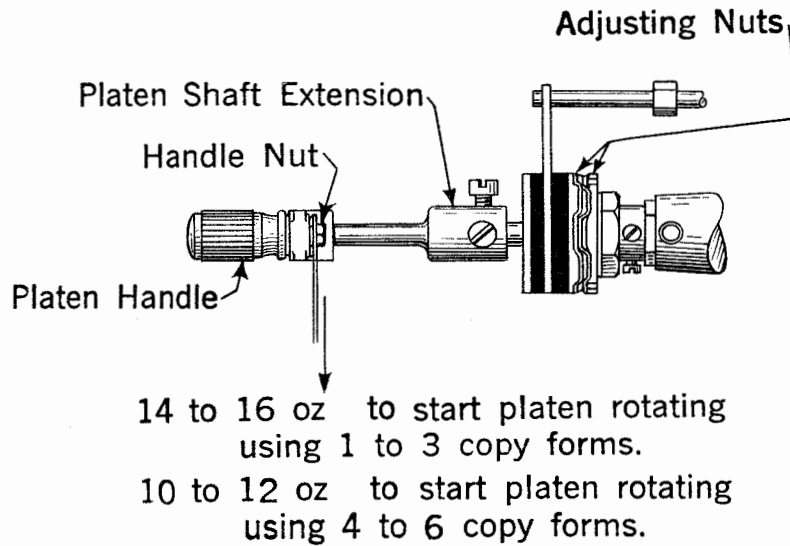

Figure 4
2.09 Platen-friction Assembly should require a pull of minimum 14 ounces, maximum 16 ounces, applied as in Figure 4, to start the platen rotating when the pressure rollers are lifted off the platen, the line-feed detent-lever spring is unhooked, the platen-handle is placed vertically upward, and 1 to 3 copies of sprocket-feed paper forms are used. See Figure 4.